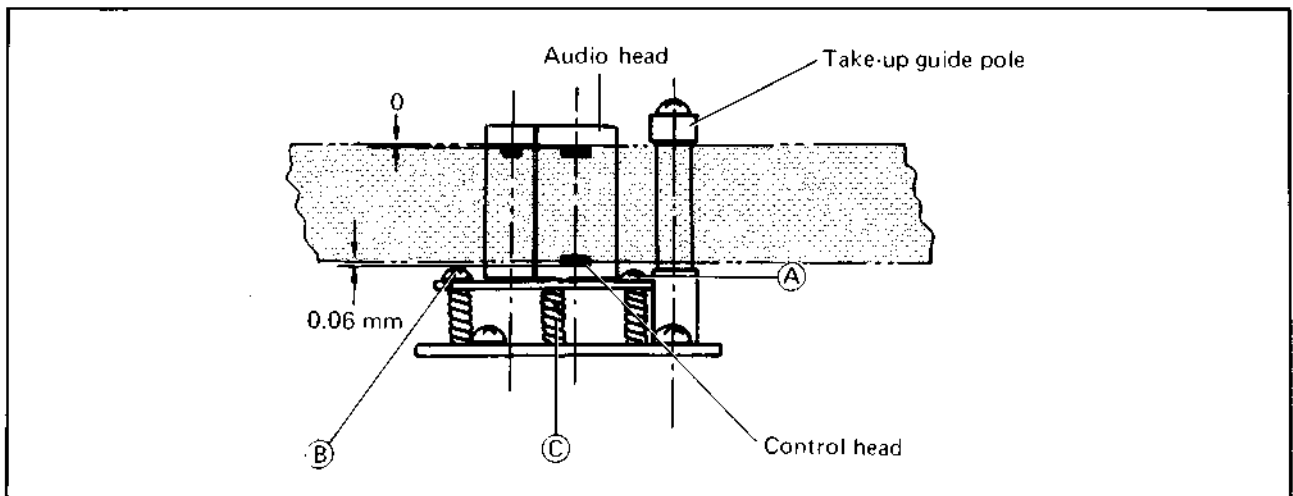

Fig. 4-26
2. If an unsatisfactory condition is noted by the above check, adjust the three screws (A), (B) and (C) by turning in small increments. Do not adjust the guide poles. The normal tape travel is shown in Fig. 4-26.
5. Adjust screws (A), (B) and (C) for maximum playback signal at TP-19.
6. After adjustment, verify the head height as shown in Fig. 4-26. Also, check for smooth tape travel.